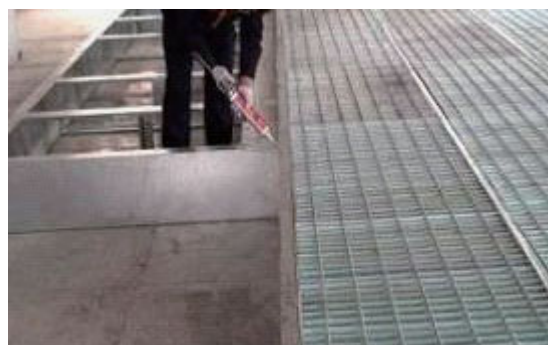

Fig. 2.6
6. Do some sealing for the basement.(shown in Fig.2.6)